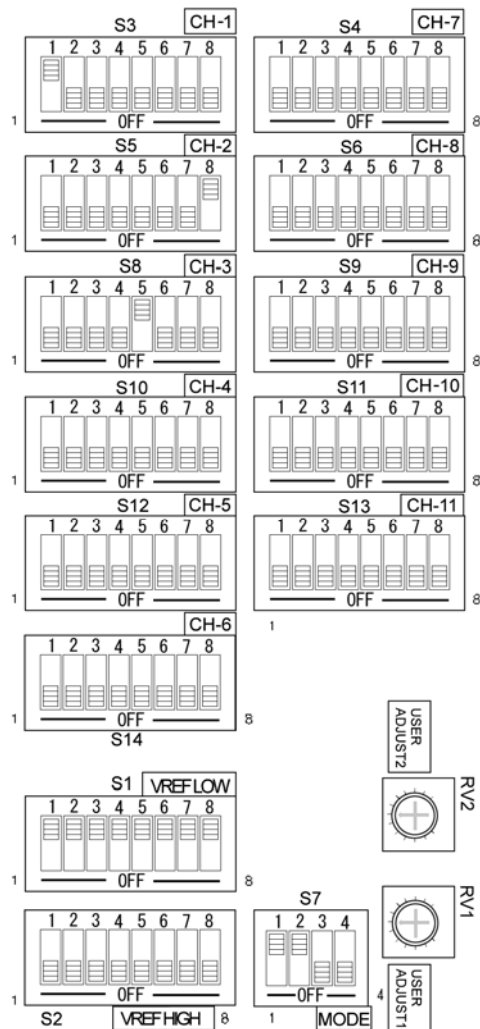

Figure 6-2 Dipswitch Setup Example
5. For the dipswitch settings, see Figure 6-2, "Dipswitch Setup Example."